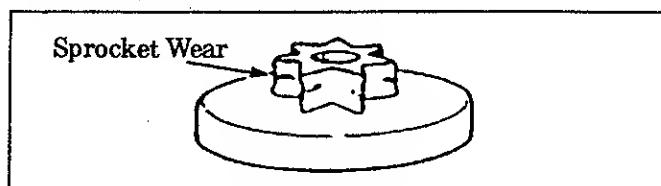

Figure 39
- Inspect the sprocket regularly for wear. A worn sprocket will make the chain run erratically and will shorten the life of the bar and chain. Figure 39.